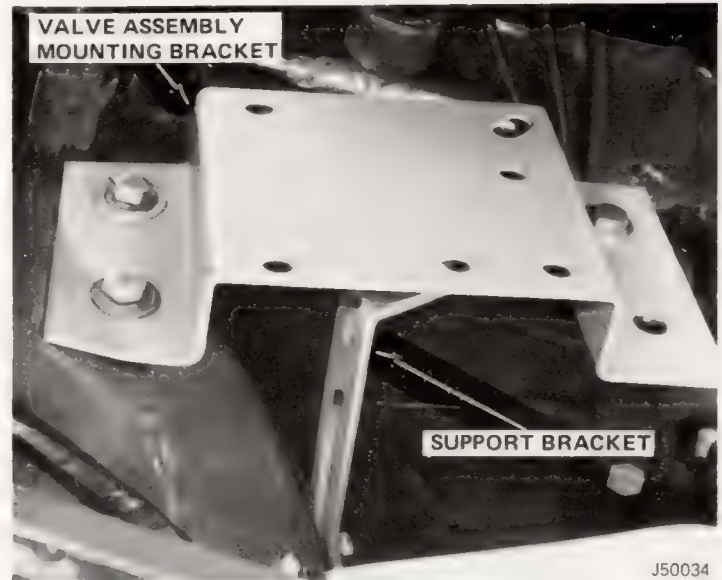

Fig. 1-52 Valve Assembly Bracket Installation
(1) Install valve attaching bracket on left side of engine compartment (fig. 1-52).
(2) Mark and drill 21/64-inch holes for valve bracket.
NOTE: In some installations, it may be necessary to form a support bracket out of slotted bar stock for rear of bracket (fig. 1-52).